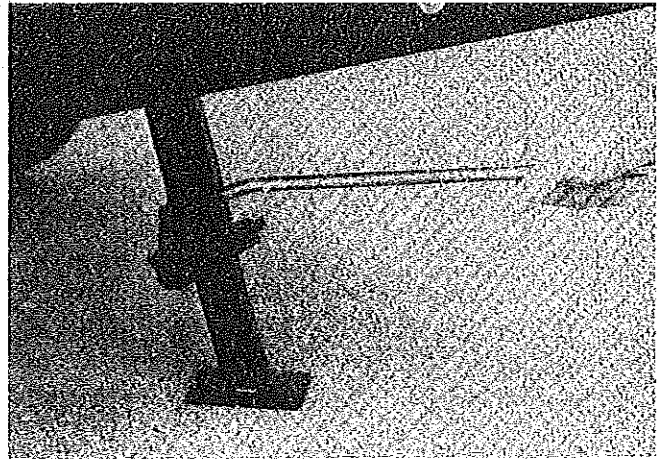

FIGURE 9
14. Remove the stabilizer jack handle from the recommended storage location. Making sure the handle is inserted through the rear hole, apply downward pressure to extend the inner legs of the stabilizer jacks to stabilize the trailer. See Figure 9. Remove jack handle and stow.